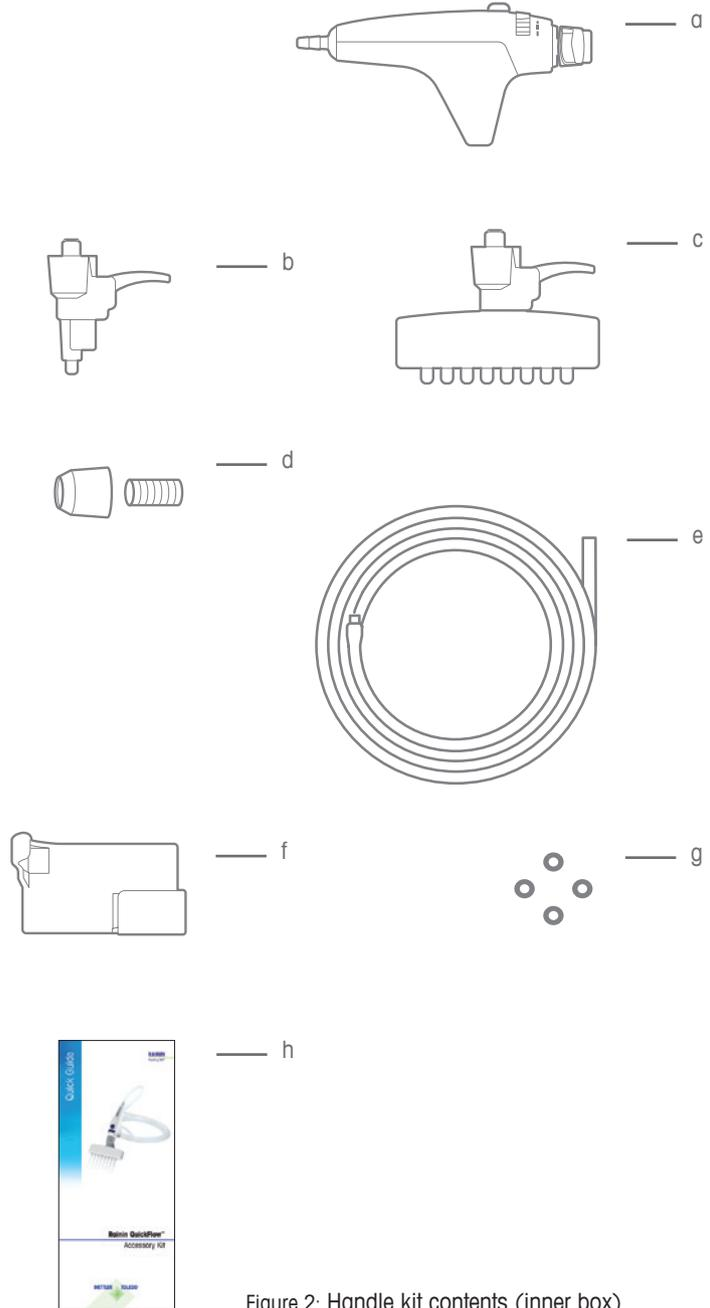

Figure 2: Handle kit contents (inner box)
4. QuickFlow includes three different handle adapters (see Figure 2 on page 4) :